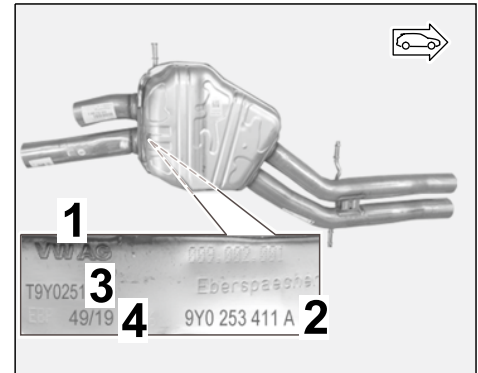

Figure 4
– Center silencer (⇒ *Figure 4*):